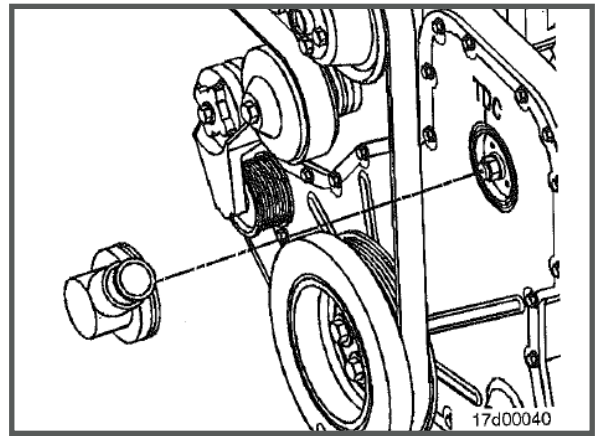

FIGURE 3
1. Remove the plastic pump drive cover located on the front of the engine. This will expose the fuel pump gears and timing marks. See figure 3.